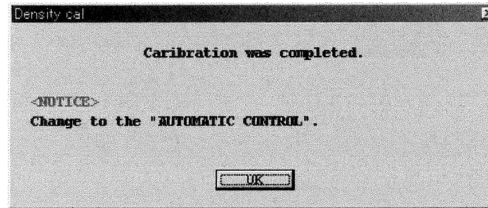

Fig.104
- ⑤ When the process of calibration has come to an end, a message like the one shown in Fig. 104 appears. Click on "OK" button.